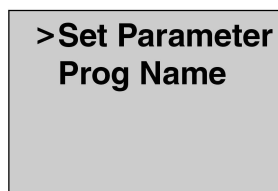

Fig. 3
3. Using the up/down arrow key ▲ or ▼, move the (>) cursor to '**Program**' and press **OK** to confirm (See figure 3).